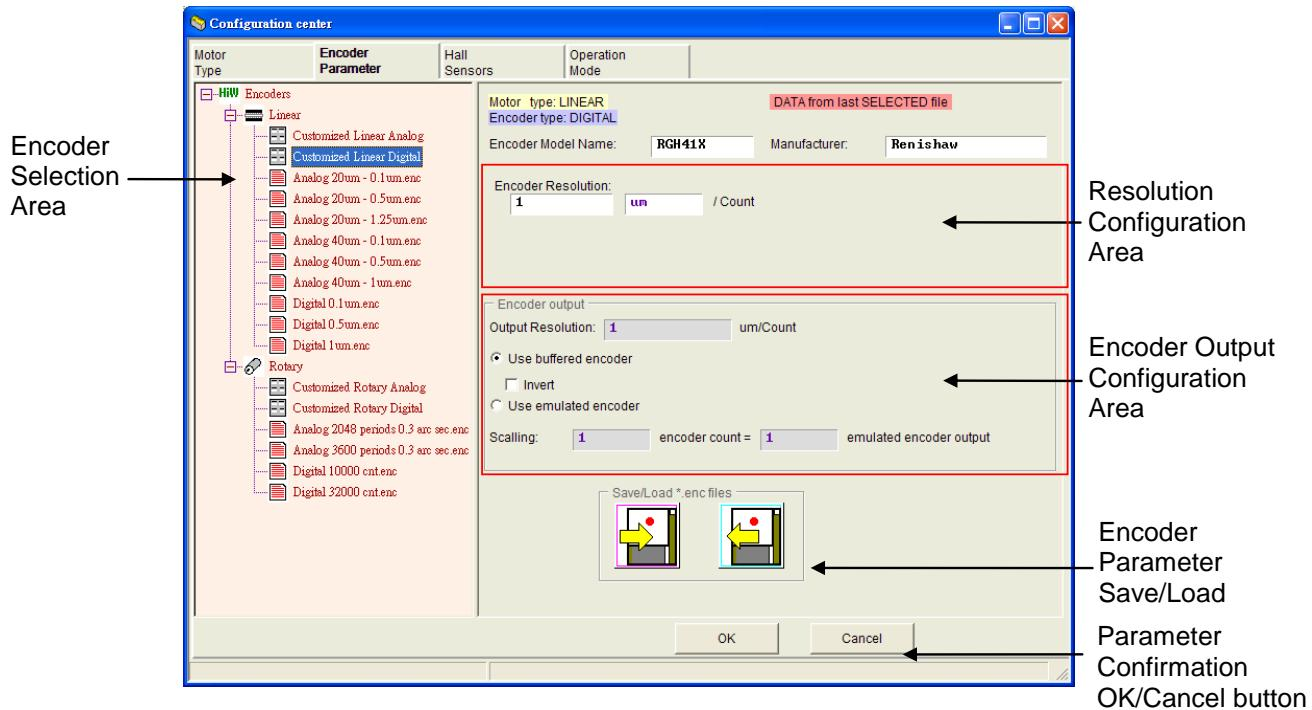

Figure 4-13 Window of Encoder Parameter Configuration
Usually the drive receives encoder feedback position to perform servo control. The window of the encoder parameter configuration is shown as Figure 4-13 and the user needs to select the correct type of encoder or set correct parameters. In this configuration window there is not only a list that collects all commonly used encoders for the user, but also provides a customized encoder configuration that the user can input parameters for different encoder manufacturer. For example to use the linear encoder click Linear category on the list and select Customized Linear Analog to open the configuration area for input of the parameters of encoder for their specification. After configured, use save function to make an encoder parameter file (*.enc) in disc for later usage.
- 4.2.2.1 Linear digital type: For example using HIWIN standard magnetic encoder PM-B-XX-XD-S-XX or Renishaw RGH41X series digital encoder, the user only has to select Digital 1um in the encoder selection area as shown in Figure 4-13. For different encoders the user also can select the correct type according to the encoder resolution from the list. If there is no corresponding resolution, configure it in the window of customized encoder. Please see the section 4.2.2.5.
- 4.2.2.2 Linear analog type: For example using Renishaw RGH41B analog encoder with grating period of 40um interpolated to 1um resolution, the user could select Linear then Analog 40um-1um item in the encoder selection area as shown in Figure 4-13 to complete configuration. To use different multiplier factor or resolution, user has to select default item or configure it in the window of customized the encoder parameter. Please see the section 4.2.2.6.
- 4.2.2.3 Rotary digital type: For example using HIWIN FACXX4001 AC servo motor with encoder of 10000 count/rev resolution, the user can select Rotary then Digital 1000 count/rev item in the encoder selection area as shown in Figure 4-13 to complete configuration. For other HIWIN FRAC series AC servo motors please refer to table 4-1. If no corresponding resolution could be found, configure it in the window of customized encoder parameter. Please see the section 4.2.2.7.
- 4.2.2.4 Rotary analog type: For example using HIWIN TMS32 torque motor integrated with rotary analog encoder with 3600 sin waves per revolution interpolatd to 0.3 arc-sec resolution, the user can select Rotary then Analog 3600 periods 0.3 arc-sec item in the encoder selection area as showing Figure 4-13 to complete the configuration. For other rotary HIWIN TMS series torque motors please refer to table 4-2. If using different multiplier factor or resolution, user also can configure it in the window of customized encoder. Please see the section 4.2.2.8.